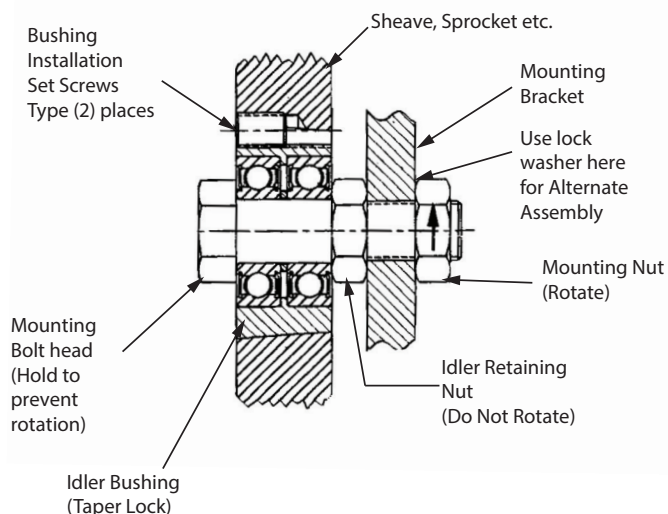

Figure 1 -- Preferred Assembly TAPER-LOCK Bushings
3. Hold the mounting bolt head stationary to prevent rotation, and tighten mounting nut to 40 lb-ft, as shown in Figure 1. DO NOT over-tighten the mounting nut.
1. Slip the sheave onto the idler bushing and hand tighten the three (3) bushing retaining bolts. **DO NOT** fully tighten the bushing retaining bolts at this time.
3. Hold the mounting bolt head stationary to prevent rotation, and tighten mounting nut to 40 lb-ft, as shown in Figure 1. **DO NOT** over-tighten the mounting nut.